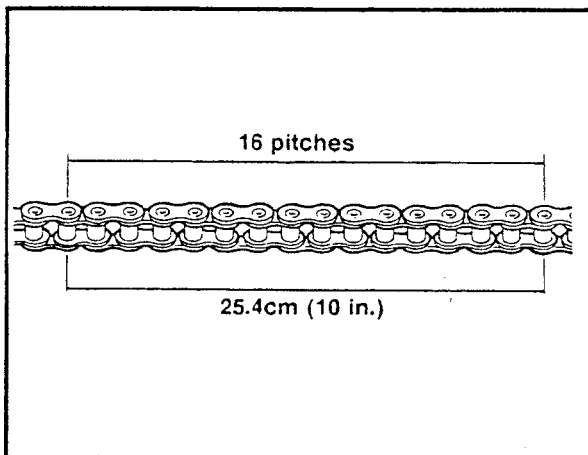

Figure 2-117. Chain Wear Measurement
2. See Figure 2-117. The length of 16 pitches of a new chain is 25.4 cm (10 in.). If the chain has stretched to more than 25.9 cm (10 7/32 in.) for 16 pitches, it should be replaced.